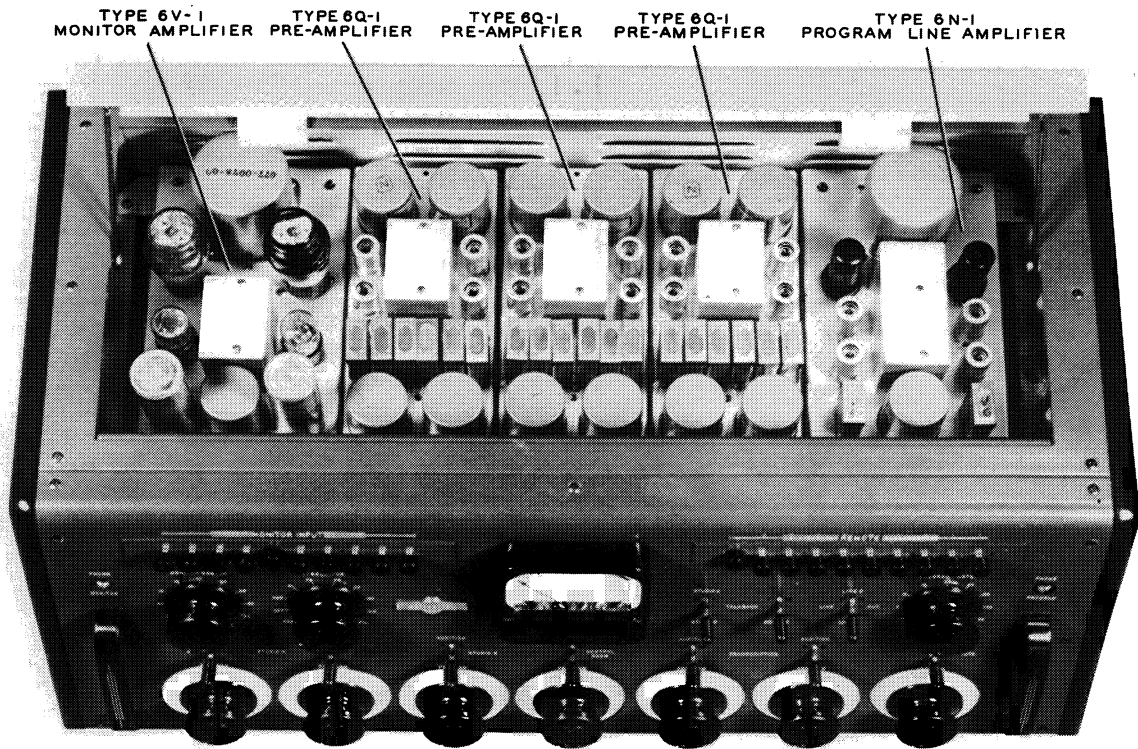

Figure 1-2 Type 212B Console, Top Open
(1) The console cabinet is constructed of heavy gauge aluminum in accordance with the best principles of advanced styling and modern engineering design. The panel controls are positioned from both the viewpoint of dynamic styling and physical convenience. Fingertip switching permits the desired combination of circuits to be set up. A tilting arrangement allows full access to all components and wiring, while the unit is in operation. Housed in this unit are five subchassis; three type 6Q-1 preamplifier assemblies, a type 6N-1 program line amplifier and a type 6V-1 monitor amplifier. Refer to figures 1-2 and 1-3. Each subchassis is mounted on four shear type rubber shockmounts. All external electrical connections are made at a screw type terminal strip at the base of the unit.